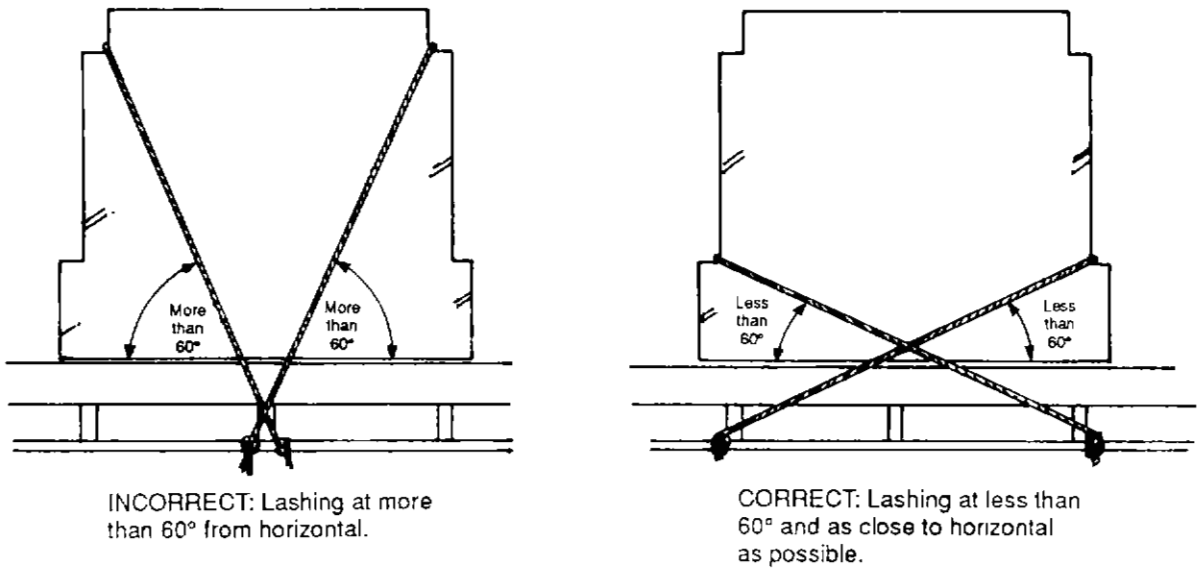

Figure 2.15
- Lashings intended to prevent forward, rearward or sideways movement of the load should be as close to horizontal as possible and never at an angle of more than 60 degrees from the horizontal. If the angle is more than 60 degrees, the strains on the lashings are so great that they can no longer do the job effectively. (Refer Figure 2.15)